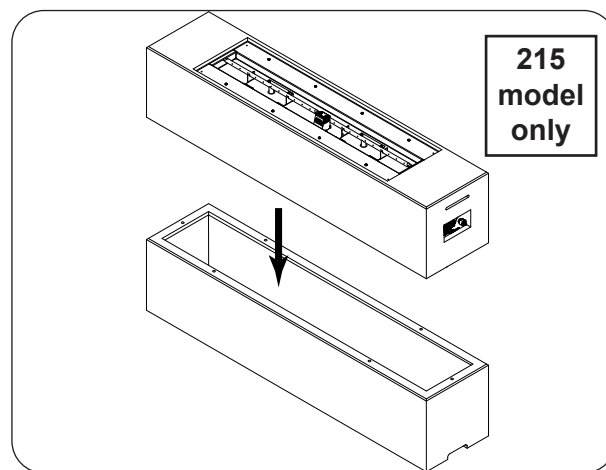

Fig. 23-2 Place top (if applicable)
1. Align the top piece over the bottom piece as shown in Fig. 23-2.